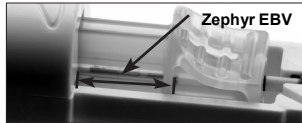

Figure 6
- c. Discard the cap of the ELS. Confirm that the Zephyr EBV is completely pulled into the compression region of the funnel cartridge under the thumb lever and that there are no monofilament strands attached to the valve (see Figure 6).